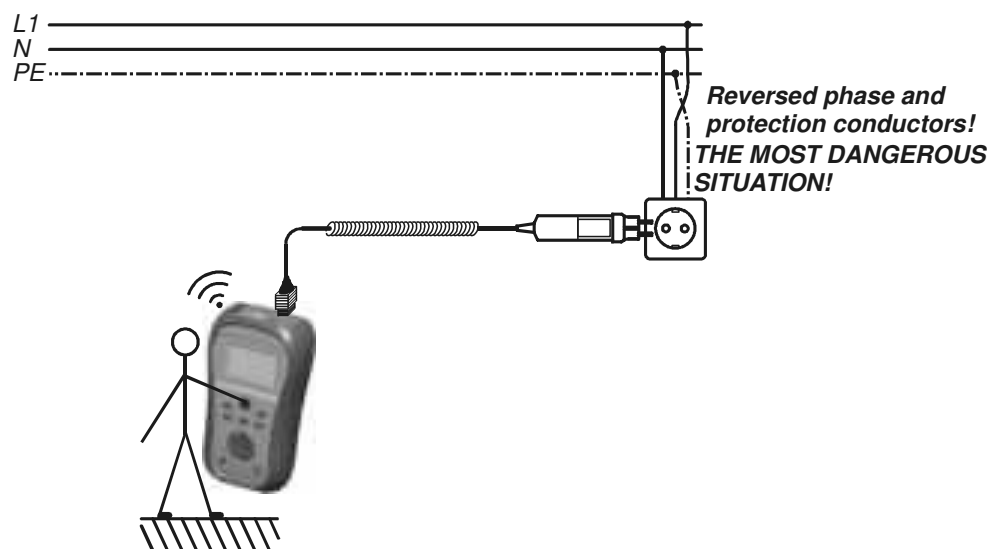

Figure 5.36: Reversed L and PE conductors (application of plug cable)
- ❑ **Connect** test leads to the item to be tested (see figures 5.36 and 5.37).